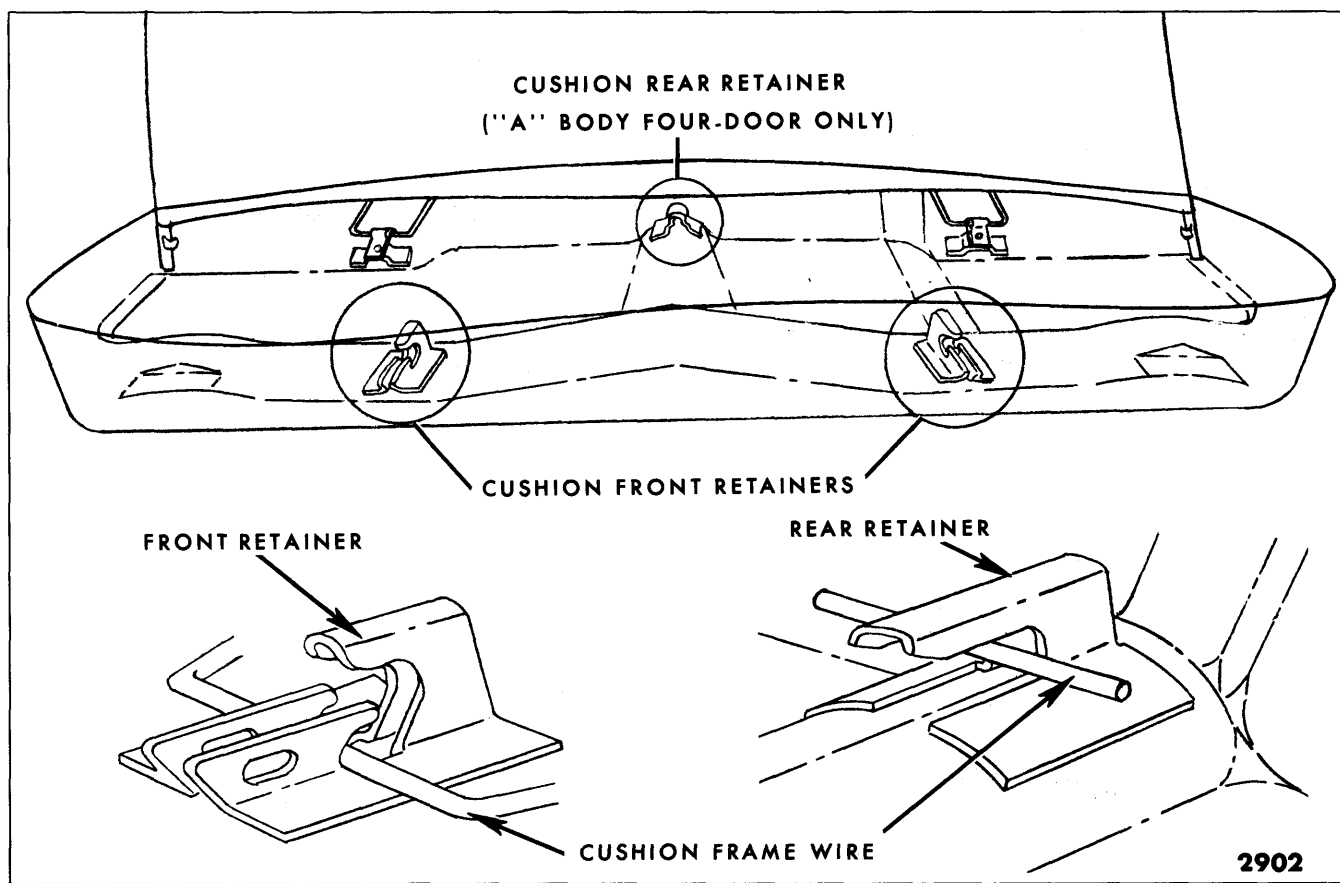

Fig. 15-47—Rear Seat Cushion Installation
1. Push lower forward edge of seat cushion rearward; then, lift upward and pull forward on seat cushion frame to disengage cushion frame wires from retainers on rear seat pan (Fig. 15-47).
NOTE: If difficulty is experienced in disengaging the front edge of the rear seat cushion from retainers on rear seat pan it may be necessary to kneel (on four-door styles) or stoop (on two-door styles) on the rear floor pan. Grasp lower edge of seat cushion at location of retainer on one side of seat; then, lean forward (towards seat cushion) using leg pressure against hands or arms, exert sufficient rearward pressure to disengage seat from retainers (Fig. 15-47).